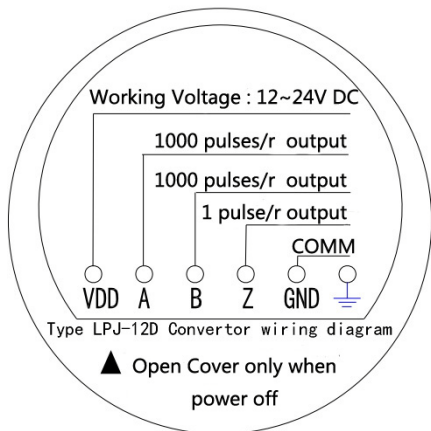
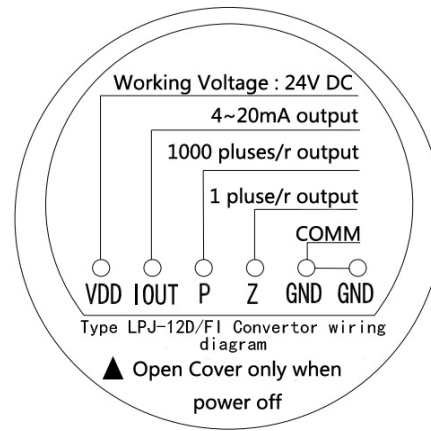

Fig.3 Type LPJ-12D Converter Terminal Diagram
Fig.4 Type LPJ-12D/FI Converter Terminal Diagram
(3) Cable Installation (see Fig.3 and Fig.4)